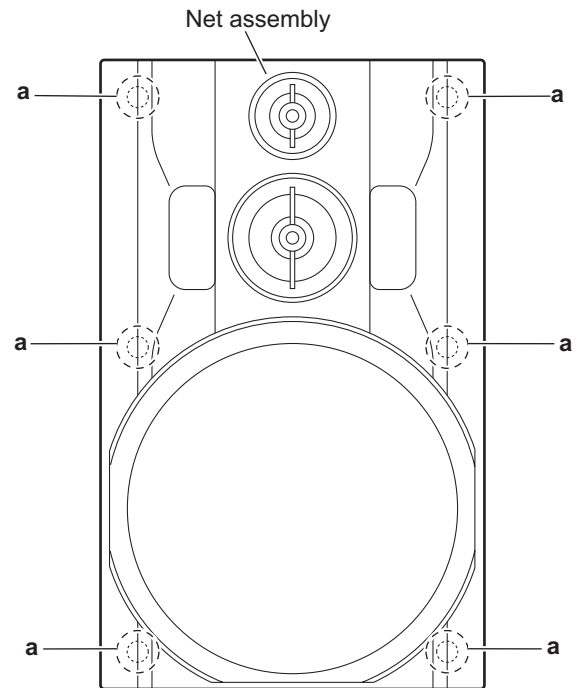

Fig.1
3.4.1 Removing the front panel assembly (See Figs.1 to 3)
- (1) Insert the tip of a flat-bladed screwdriver or similar tool into the space between the speaker main body and front panel assembly, and lift the front panel assembly little by little to remove the joint sections a. (See Figs.1 and 2.)